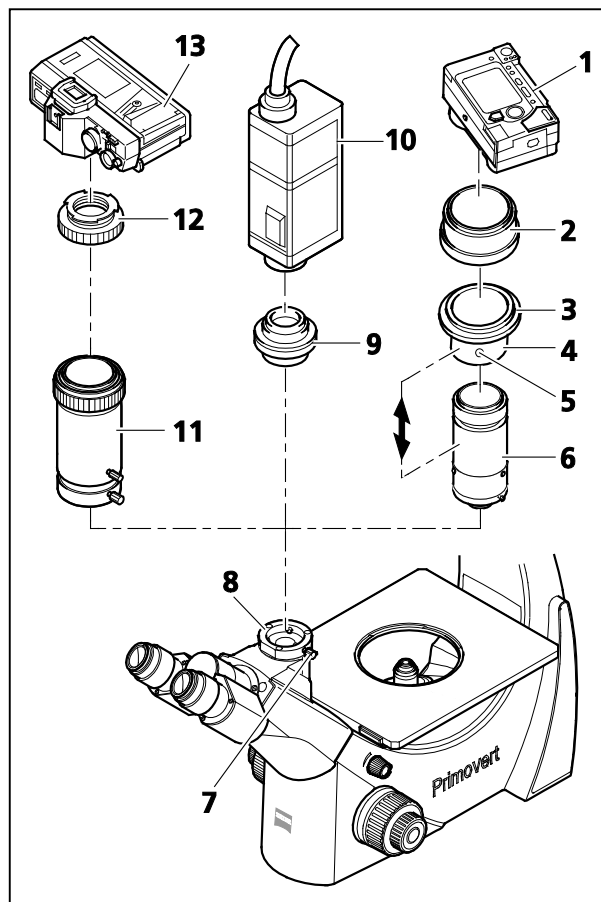

Fig. 22 Attaching the camera
- Loosen the clamping screw (Fig. 22/7) and remove the dust cap from the camera port (Fig. 22/8) of the binocular phototube.
- Sliding mount (Fig. 22/4), thread adapter ring M37/52 (Fig. 22/3) and lens mount (Fig. 22/6) are supplied pre-assembled as Digital Camera Adapter P95 M37/52x0.75. The opposite drawing shows this unit dismantled. Furthermore, you may unscrew the thread adapter ring M37/52 (Fig. 22/3) from the sliding mount (Fig. 22/4) (not shown) so that you can also attach cameras with M37 thread.
- Mount the adapter ring (Fig. 22/2) (optional accessory for the corresponding camera) to the camera (Fig. 22/1) (see the operating instructions of the camera).
- Screw the unit consisting of sliding mount (Fig. 22/4), thread adapter ring M37/52 (Fig. 22/3) and lens mount (Fig. 22/6) into the adapter ring (Fig. 22/2).
- Insert the camera with adapter into the phototube as far as it will go. Align it and fasten it with the clamping screw (Fig. 22/7).
- Depending on the microscope equipment or the camera used, it may be necessary to optimize the distance between camera lens and lens mount (Fig. 22/6) (see double-headed arrow). This will be necessary in particular if it is impossible to obtain an unvignetted image in any of the zoom positions of the camera lens. To this end, adjust the camera as follows:
- Loosen the set screw (Fig. 22/5).
- Zoom the camera lens through from wide angle (W) to tele position (T).
- Retighten the set screw (Fig. 22/5).
Cameras with C-mount thread are to be connected to the phototube of the microscope by means of the camera adapter P95-C 2/3" 0.65x or P95-C 1/2" 0.5x (Fig. 22/9).
- Put the video camera (Fig. 22/10) or single-lens reflex camera (Fig. 22/13) (using the T2 adapter for this camera (Fig. 22/12) together with the corresponding camera adapter (Fig. 22/9 or 11) into the phototube as far as it will go, align it and fasten it with the clamping screw (Fig. 22/7).